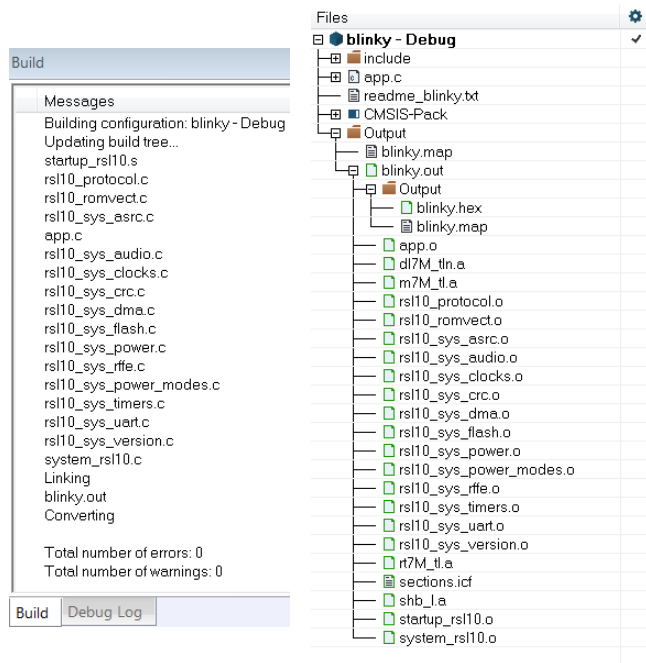

Figure 35. Example of Build Output
- When the build is running, the output of the build is displayed in the **Build Output** view in the IDE, as illustrated in Figure 35.